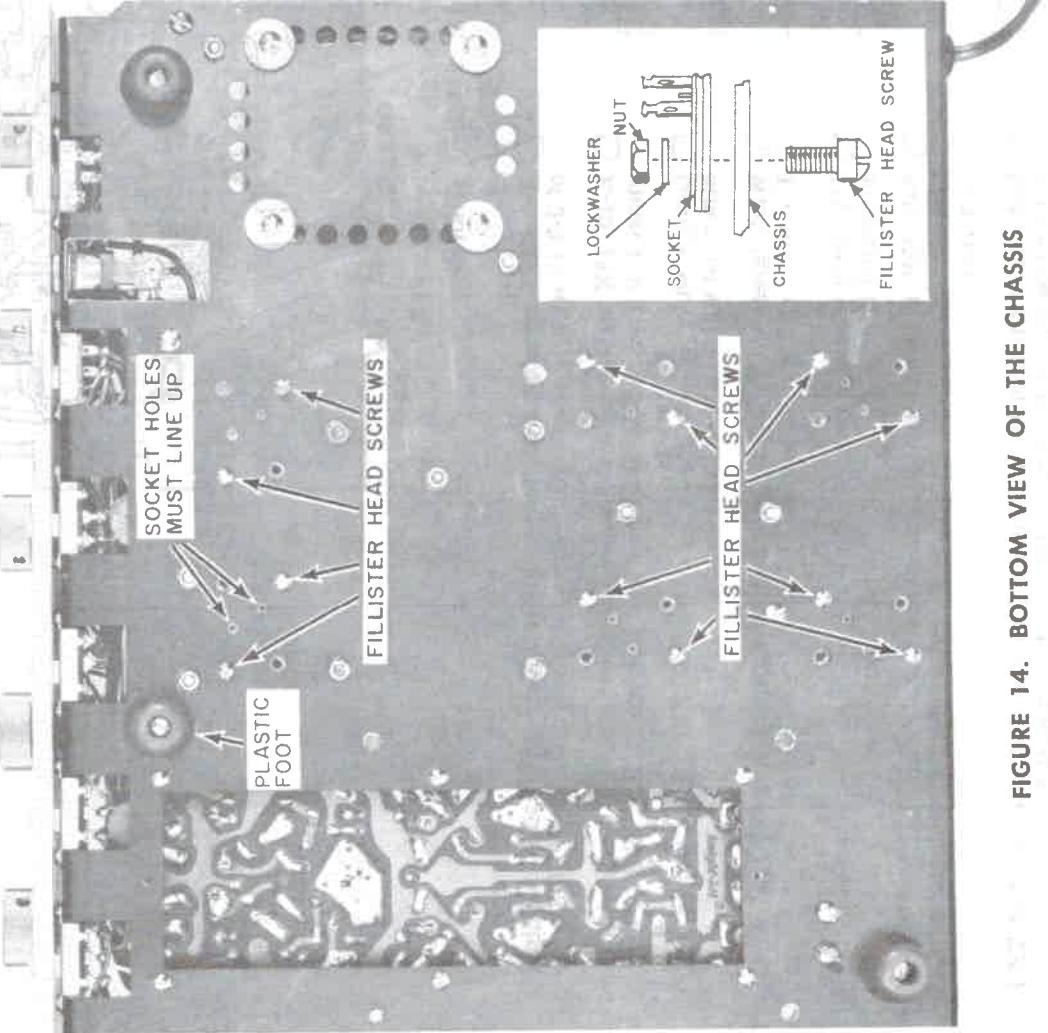

FIGURE 14. BOTTOM VIEW OF THE CHASSIS
SEE FIGURE 14.
- NOTE: Use only fillister-head screws for mounting transistor sockets. Any other type will be too large, and will "short" the transistor, resulting in permanent damage. Refer to the parts identification photo to be sure that you are using the proper screws, and Figure 14 for proper location.